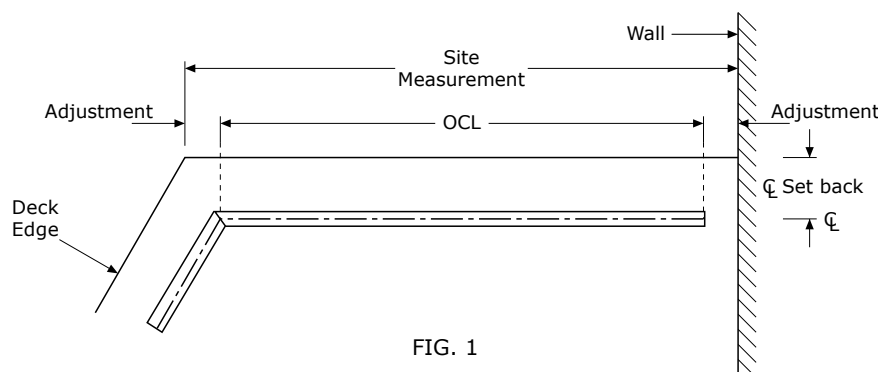

FIG. 1
The Overall Centreline (OCL) is the measurement of all balustrade runs in a continuous line, measured along the glass centreline (CL) to each mitre, and to the end of each run (see Fig. 1).
From the site measurements, determine the OCL of the balustrade, the balustrade centre-line position and any length adjustments necessary due to corners in the deck (see Fig. 1). Also take into account any clearances needed where the balustrade meets a wall face, and top rail ends that require secure attachments to wall or posts.